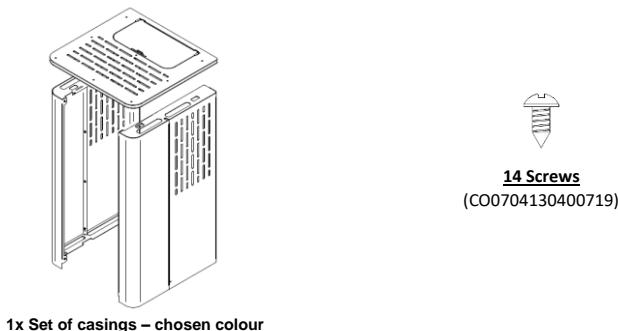

Figure 20 - Fuji Kit
- a) Place the display located inside the pellet hopper on the back of the unit, as shown in Figure 20. To perform this task, slightly unfasten the screws located in the rear of the unit. When securing the display, it may be necessary to adjust the height.